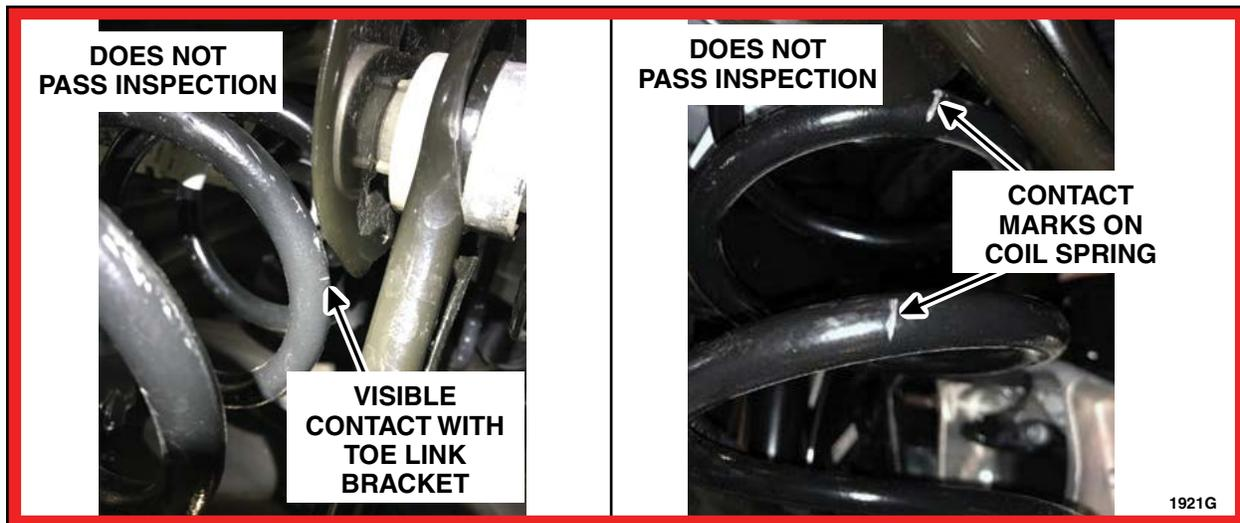

FIGURE 1
2. Inspect both rear coil springs on side of toe link bracket for any signs of contact with the toe link bracket. See Figure 1.